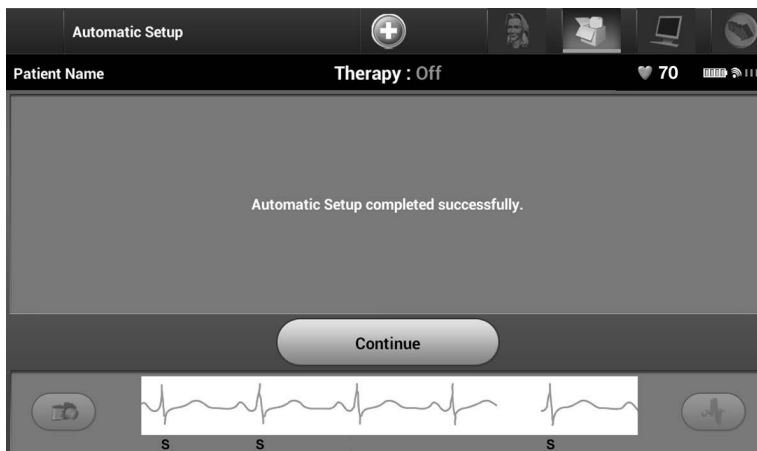

Figure 27: *Confirmation of successful Automatic Setup*
7. Select the Continue button to finish the Automatic Setup process. A confirmation screen will appear when Automatic Setup is complete (Figure 27).